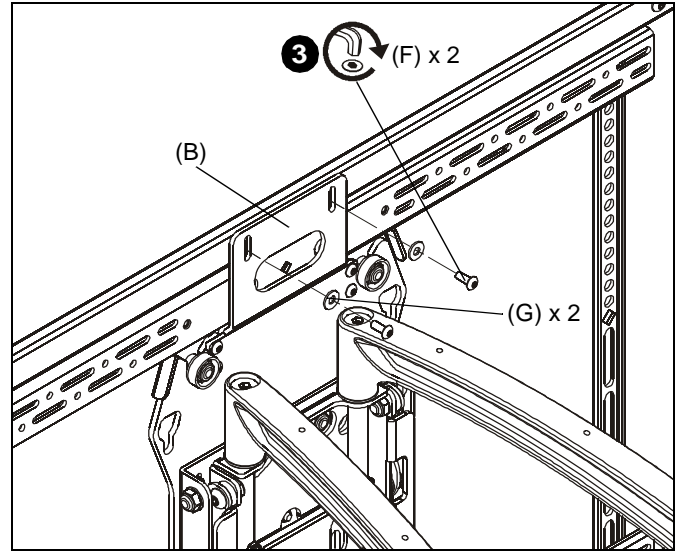

Figure 7
3. Use two #10-24 x 1/2" button head cap screws (F) and two #10 washers (G) to connect top horizontal bracket (A) to attachment bracket (B). (See Figure 7)